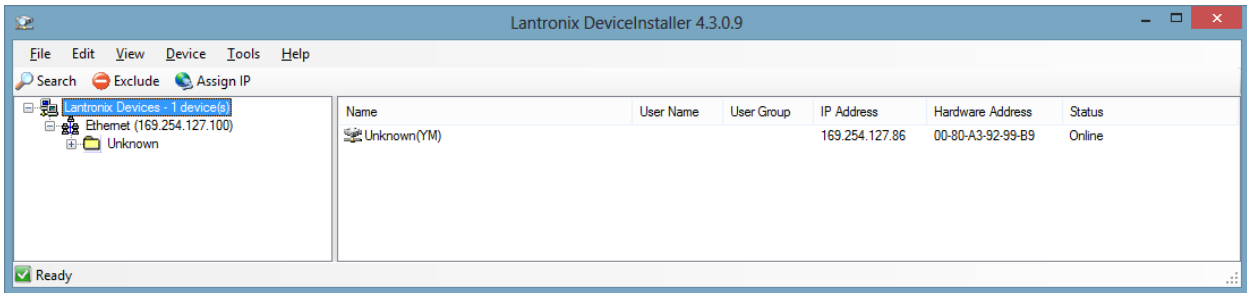

Fig 5.9.1
5.9 Once step 5.8 is done, exit the software and then restart again. In a few seconds, the software will display the device being online. See fig 5.9.1.